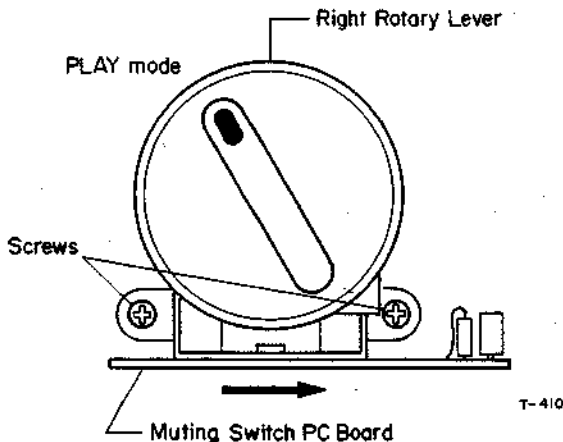

Fig. 23 Muting Switch Position Adjustment
2. Loosen the 2 screws as shown in Fig. 23.